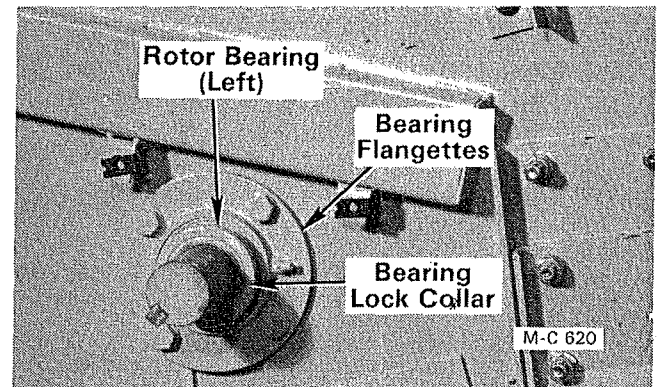

Figure 34
7. Remove the four capscrews and lockwashers from the flangettes and remove both flangettes and bearing from the rotor shaft, see Figure 34.